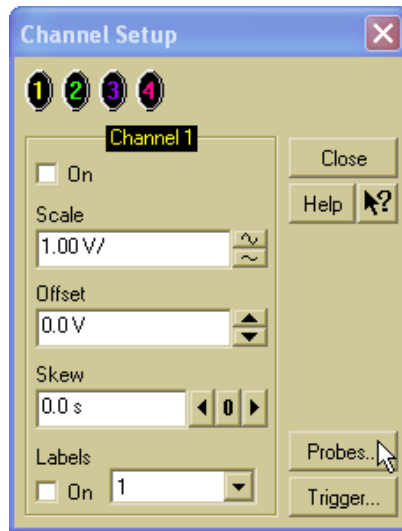

Figure 99 Channel Dialog Box
- 2 In the Channel Setup dialog box, select the Probes... button, as shown in Figure 99.